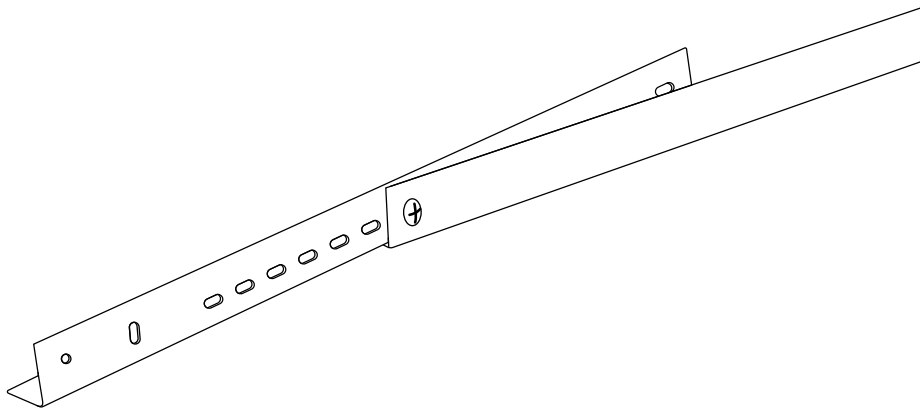

Figure 2
4. Once the height is determined, use 4 screws (H) and nuts (I) to combine the brackets, making sure to use the correct screw hole on each of the four short brackets. *Figure 2*